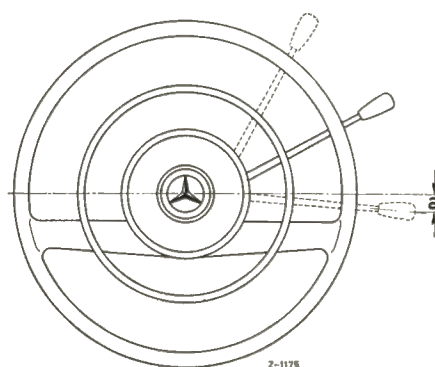

Fig. 26-3/1
6. Check the position of the shift lever at the steering wheel. In 2nd and 4th gear, the deviation of the lever from horizontal should be "a" (Fig. 26-3/1).